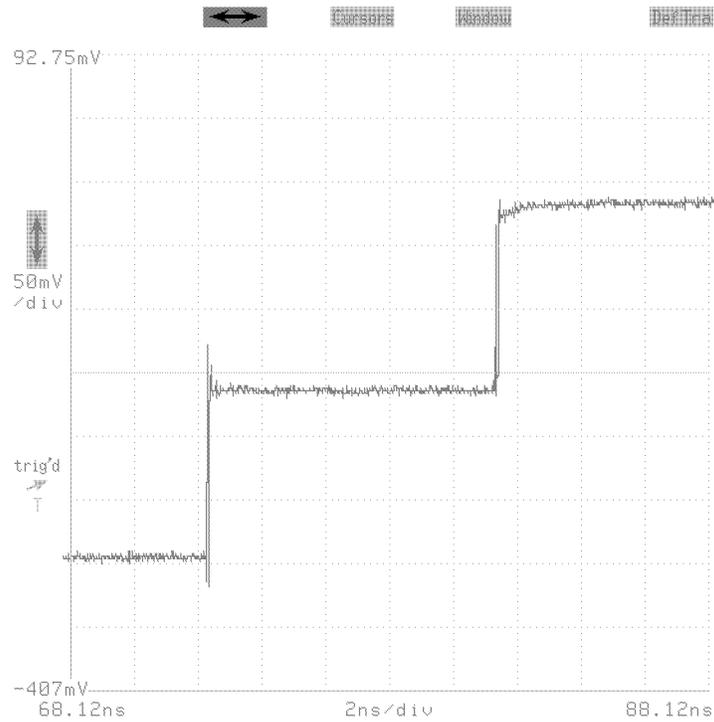

Figure 12: TDR Step and Reflection
- **Step 7:** Adjust the display sizes and positions to show a trace similar to that shown in Figure 12. The vertical (↕) and horizontal (↔) icons will let you make fine adjustments.